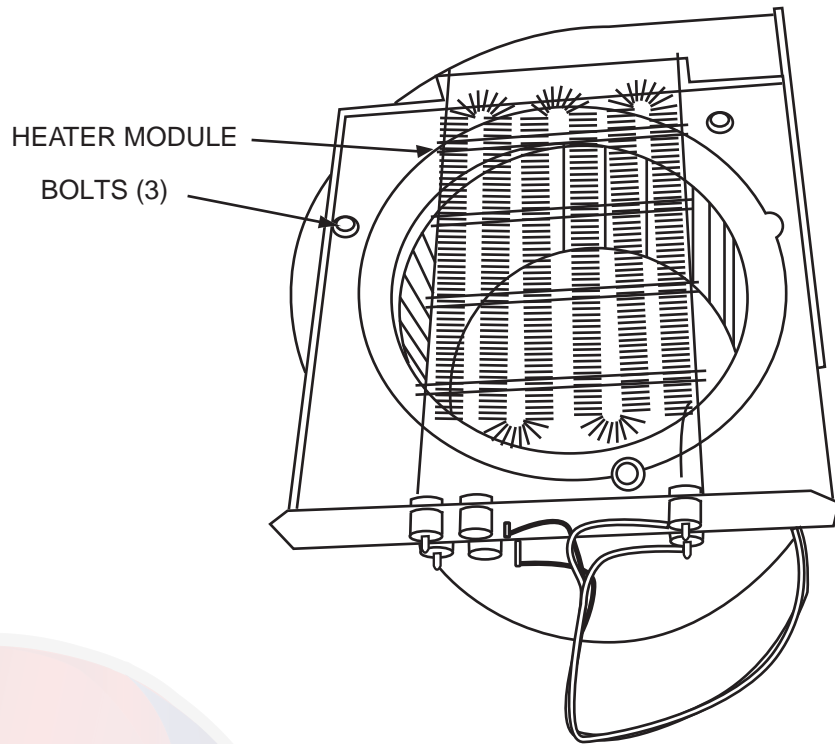

Fig. 3 – Attach Heater Module
- Open heater package and remove heater module; secure heater module to standoffs on blower inlet with (3) bolts provided (see Fig. 3). Adjust mounting position so that all hardware and sheetmetal clears the heating element wire by at least 1/4 in. Reinstall heater/blower assembly.